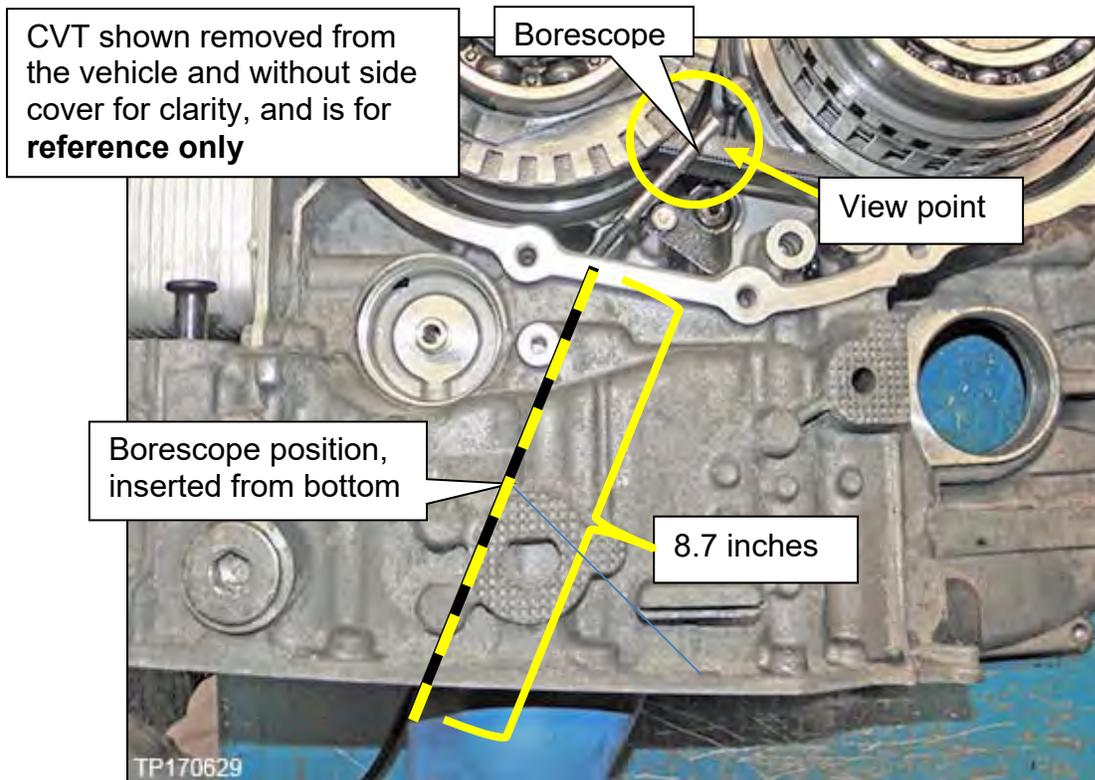

Figure 22
19. Insert the lens approximately 8.7 inches from the CVT case rim (Figure 22)